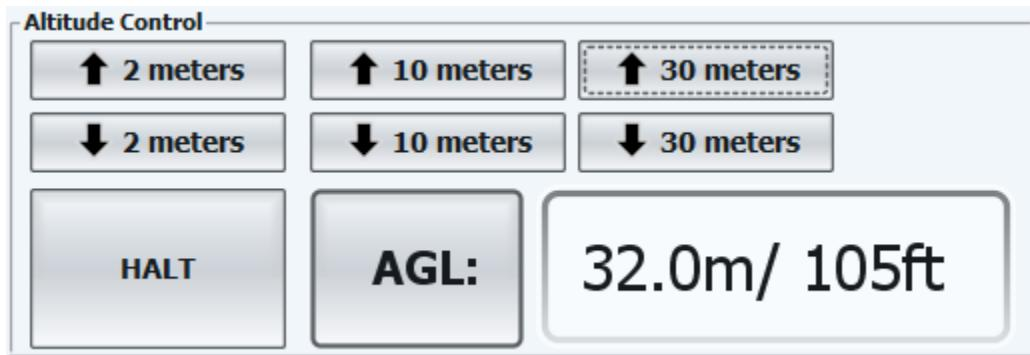

Figure 28 - Altitude Control Buttons
5. If the drone appears to be stable in hover, the altitude can be increased by clicking on the Altitude Control buttons shown in Figure 28.